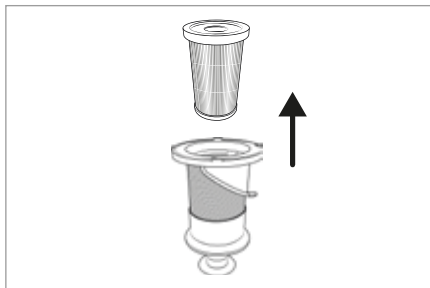

Fig. 21
- 4) Remove the EPA filter ⑤ from the stainless steel filter ⑥ by reaching into the opening of the EPA filter ⑤ and pulling it out of the stainless steel filter ⑥ (see Fig. 21).